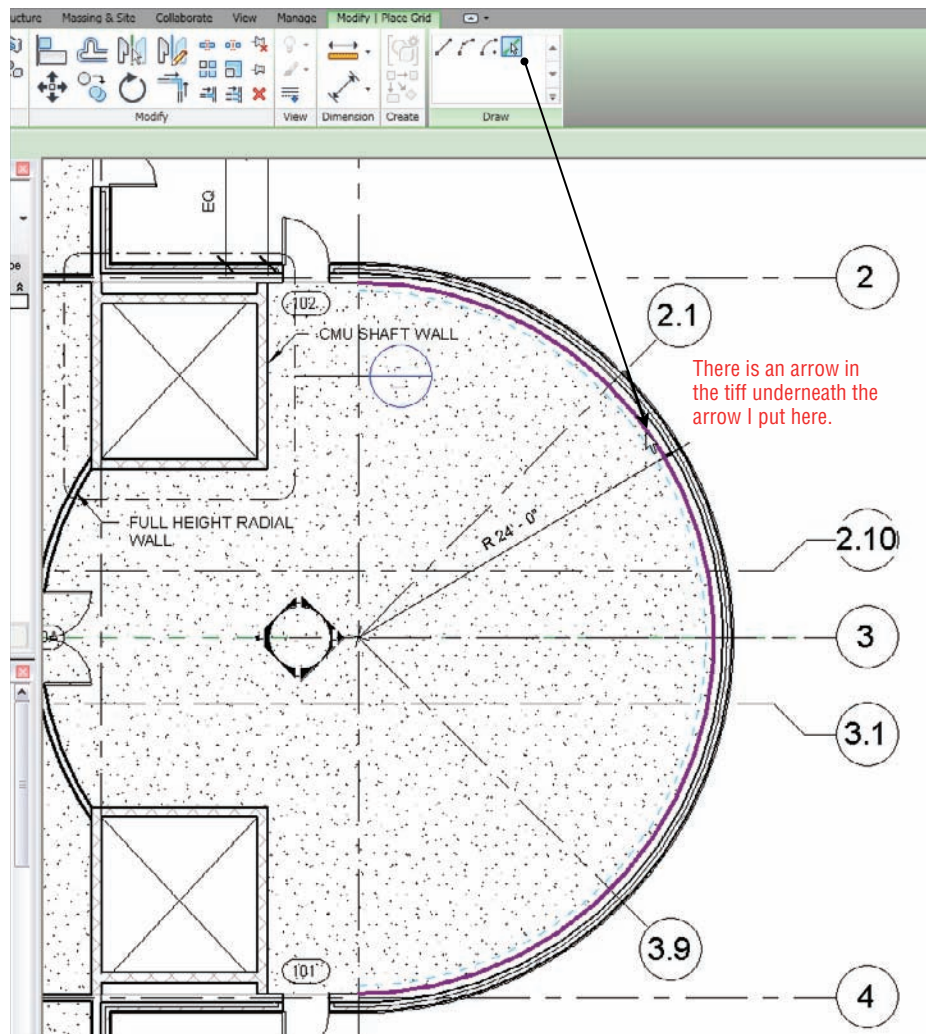

FIGURE 8.19 Adding a grid line offset from the finish inside face
3. On the Draw panel, select the Pick Lines button, as shown in Figure 8.19.
5. Pick the finished, inside face of the radial wall, as shown in Figure 8.19. Make sure the alignment line indicating where the grid will go is on the inside of the wall.